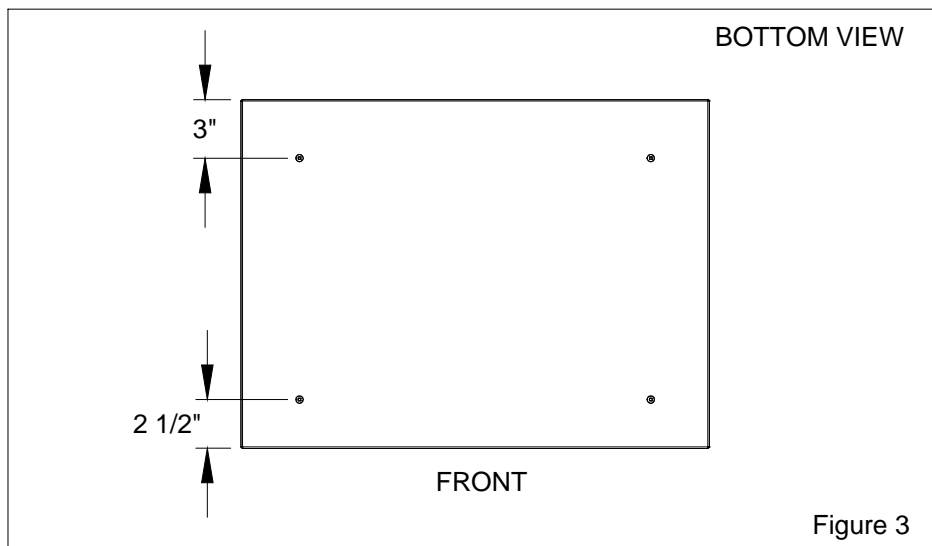

Figure 3
3. Figure 3 shows the bottom of the spacer with the inserts spaced 3 inches at the back and 2-1/2 inches in front.